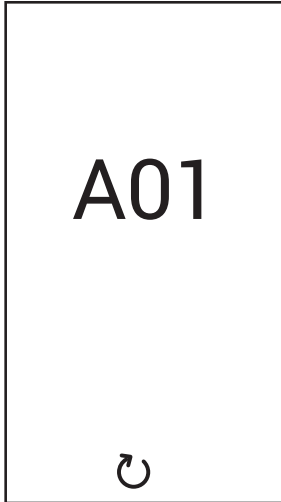

fig. 5
**A-type fault (fig. 5):** For this fault, manual intervention is required by pressing the button  for about 5 seconds. Then confirm with the button .